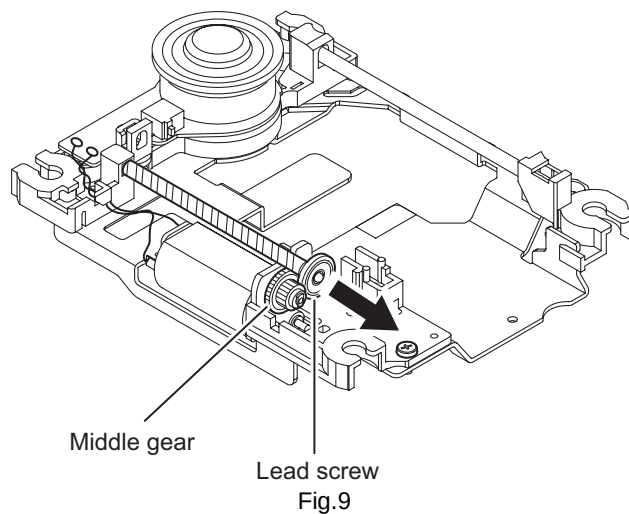

Fig.9
- (3) Remove the lead screw from traverse mechanism assembly. (See Fig.9)